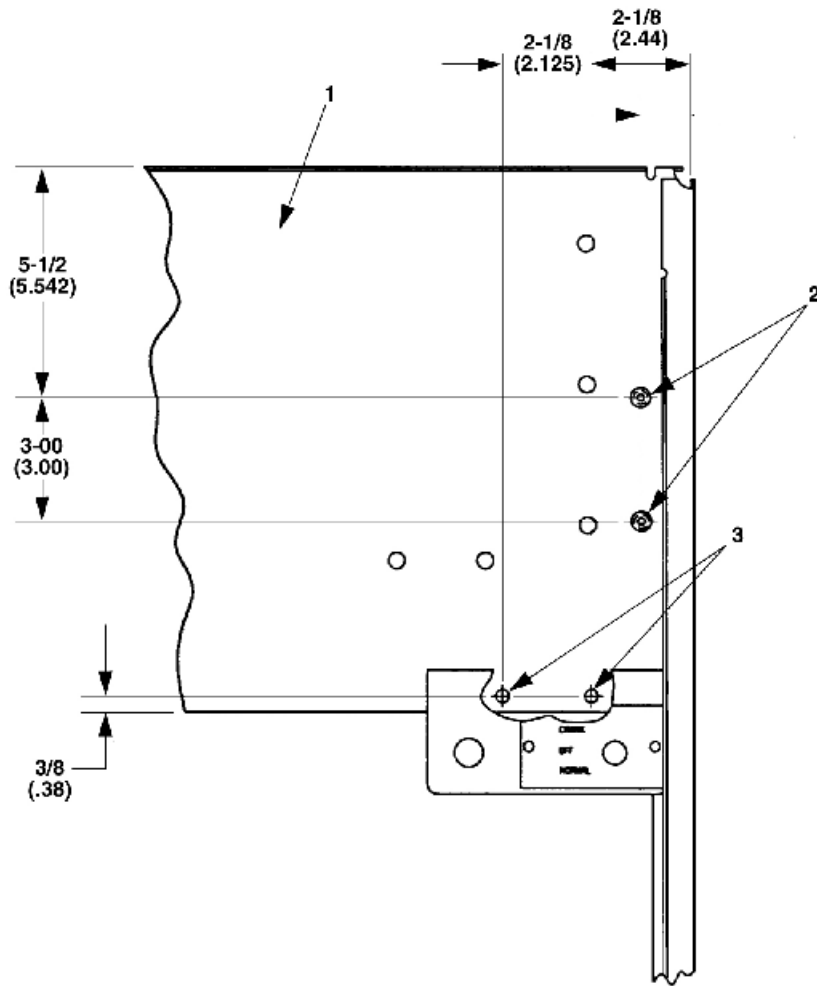
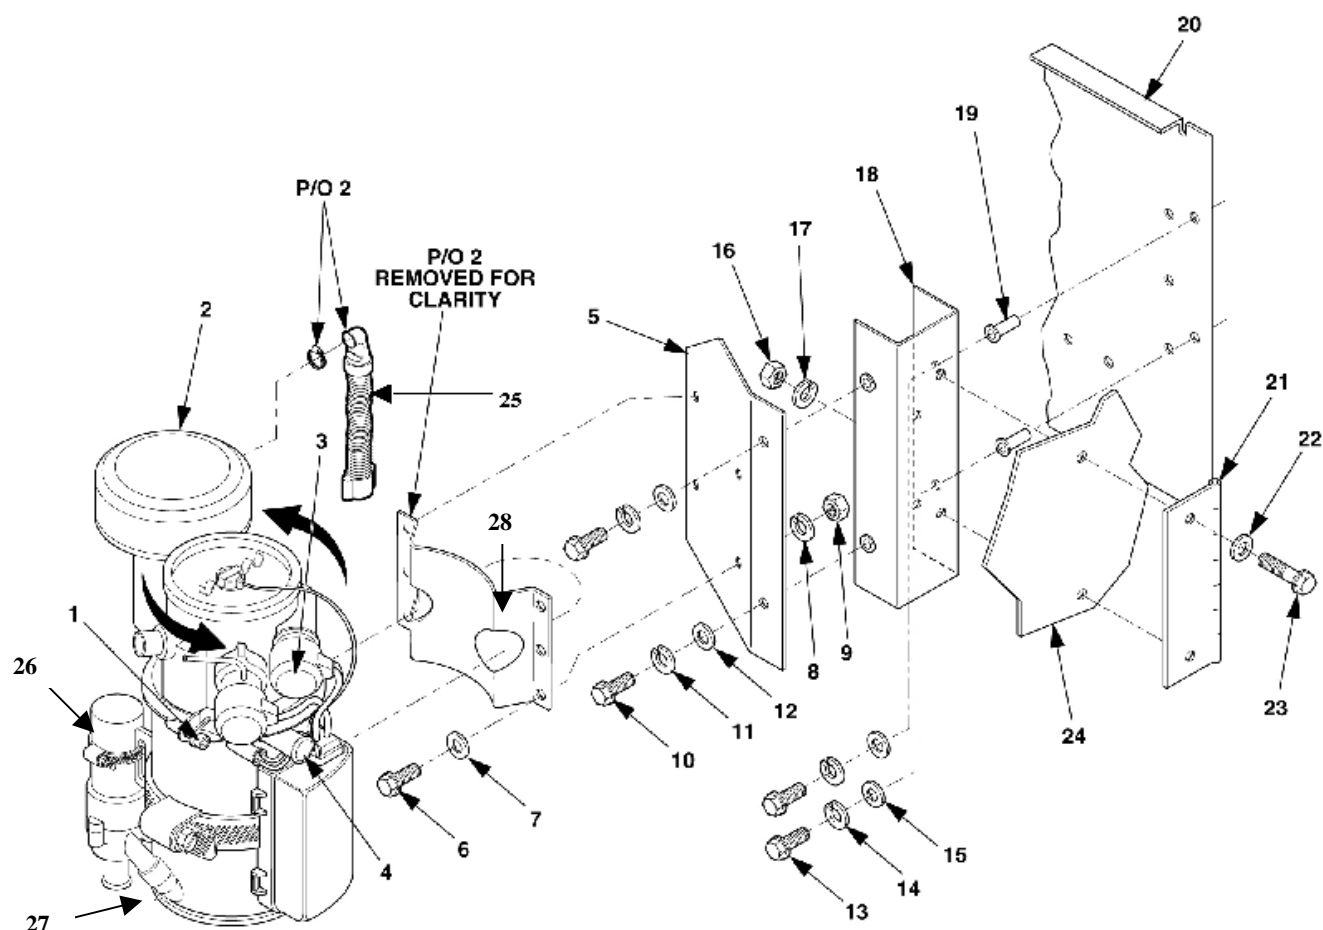

Figure 5-3. Bulkhead Housing.
Figure 5-4. Heater Assembly.
11. Remove dead crank switch bracket (4), Figure 5-3, from center bulkhead housing. Retain hardware for reinstallation in accordance with TM 9-6115-641-24. Retain hardware for reinstallation.
12. Drill four $\frac{9}{32}$ inch diameter holes (2 and 3) in center bulkhead housing (1).
13. Install dead crank switch bracket (4, removed in procedure 11) in holes (3) with screws, flat washers, and lock washers.
14. Loosen the heater head retaining screw (1), Figure 5-4, part of (2), and rotate the glow plug assembly (3), until the right glow plug is above the coolant outlet (4), and tighten.
15. Loosen the heater holding clamp bracket (28), part of (2), and rotate the “black” heater shell bracket approximately 1 ½ inch space from the heater water pump. Do not retighten the clamp.
16. Install the heater (2), on the heater mounting plate, (5), using screws (6), flat washers (7), lock washers (8), and nuts (9).
17. Attach the heater air inlet flexible hose (25) to the heater water pump (26) using existing cable tie provided with heater, (2). Ensure the inlet hose (27) does not interfere with the heater mounting bracket.
18. Remove the hinges (21) and associated hardware from the generator set.
19. Install blind rivet nuts (19) in holes on bulkhead housing (20). See holes (2) in Figure 5-3.
21. Install the wall mounting plate bracket (18), Figure 5-4, on the inside of the center bulkhead housing using screws (13), flat washers (14), and lock washers (15) into rivet nuts (19).
23. Install the top hinge (21), on the outside of the center bulkhead housing (24), using screws (23), flat washers (22), lock washers (17), and nuts (16), removed in procedure 18.
24. Install the heater/mounting plate assembly (5) to the wall mounting bracket (18), using screws (10), flat washers (11), and lock washers (12).